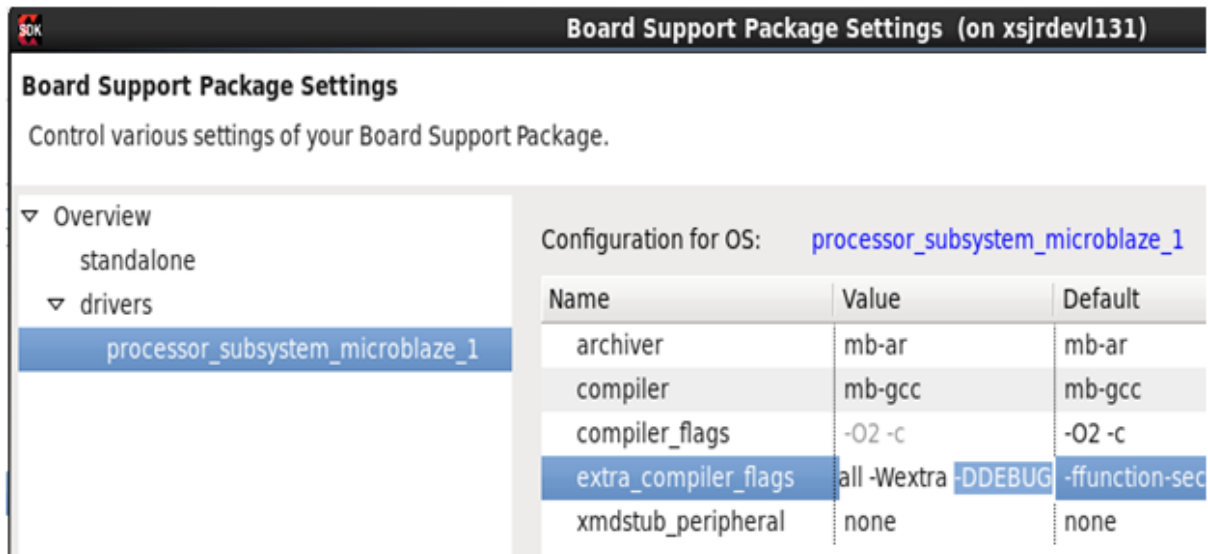

Figure D-2: Board Support Package Settings Window
2. The **Board Support Package Settings** window pops up. Navigate to the **processor_subsystem_microblaze_*** (Figure D-2).